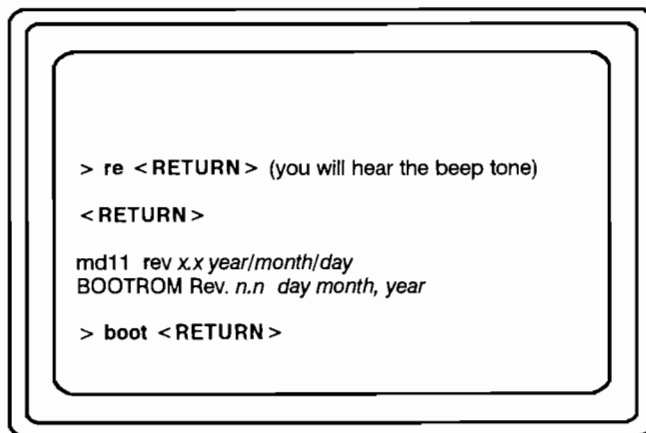

Figure 3-4. Loading Domain/OS
6. When “Done.” appears on your screen, type the command shown in Figure 3-4 to start up Domain/OS software from its network partner.